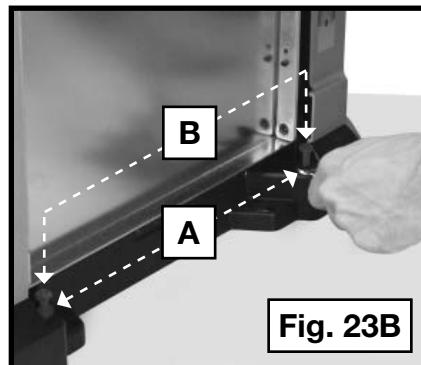

Fig. 23B
4. If your table needs adjustment, loosen the locknuts (A) Fig. 23B on the table height-adjustment screws (B). Adjust the screws up or down to achieve the desired table height.